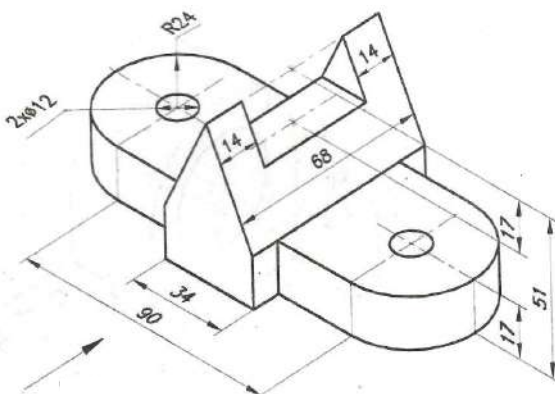

Fig: 3
10. The pictorial view of the machine component is given in Fig. 3. Draw the front view and right hand side view.